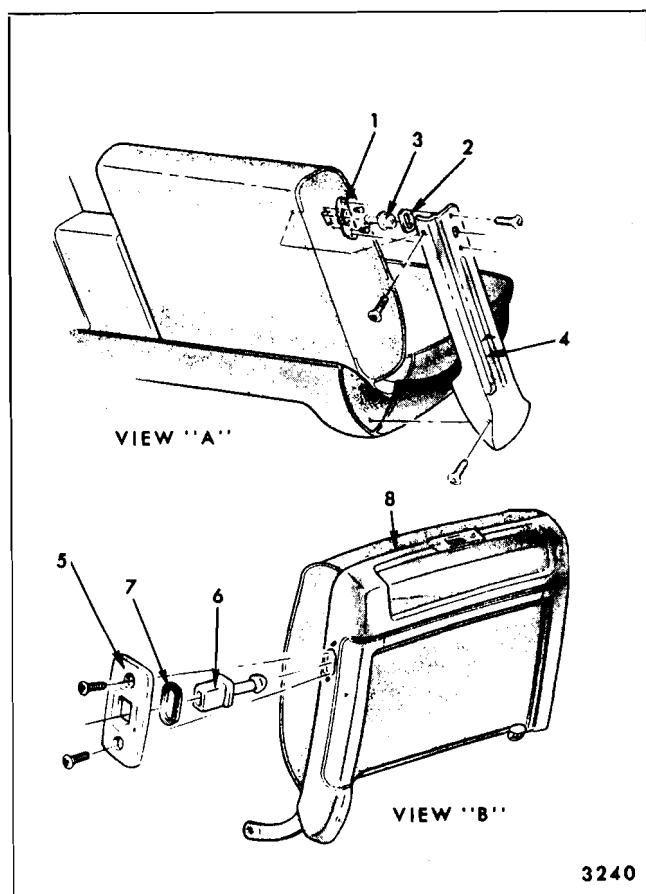

Fig. 15-31—Seat Back Lock Push Button - "C & E"
2. On styles with full seat back panel, remove seat back lock push button escutcheon and remove lock push button and ferrule; then, remove seat back panel (See View "B", in Fig. 15-31). On styles with seat side panel, remove seat side panel; then, remove lock push button and ferrule (See View "A", in Fig. 15-31).